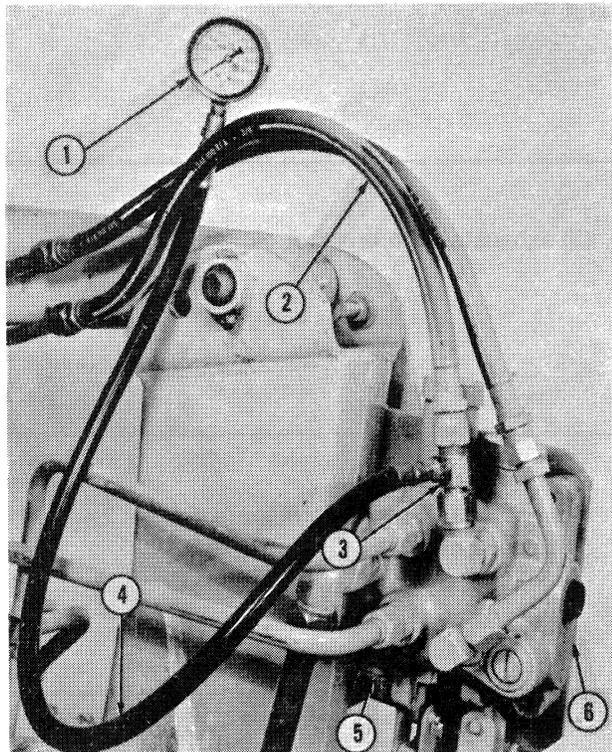

Figure 19
IMPORTANT: When checks are made for relief valve pressure settings, the hydraulic system oil must be at $165 \pm 15^\circ \text{F.}$ ($66-82^\circ \text{C.}$) Valve settings made when the system oil is cold will be inaccurate under actual operating conditions. The system relief valve (5), Figure 19, is located in the bottom front portion of the loader control valve (6).
1. Disconnect the bucket cylinder rod end hose (2), Figure 19, from the control valve.
2. Install the ND-135-10.1 and D-32 or 1401 fitting (3), D-19-HP hose (4) and D-22 pressure gauge (1).
6. If the pressure observed is not within specifications, stop the tractor engine, relieve hydraulic pressure and slowly and carefully remove the relief valve cap (5).